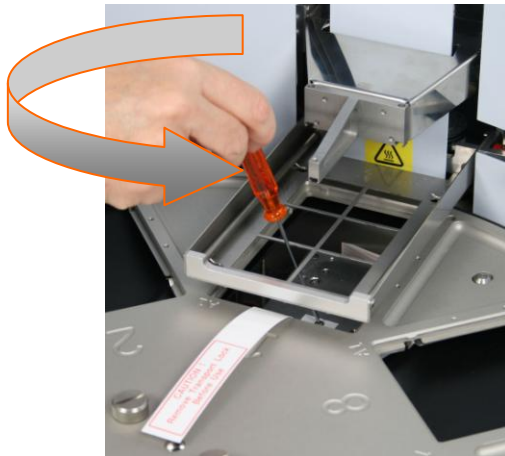

Figure 5. Removing the transport lock of the heating block (A)
3. The transport lock of the heating block is removed according to Figure 5. Unscrew the transport lock screw counterclockwise (Figure 5). Lift the screw with the label attached (Figure 6).